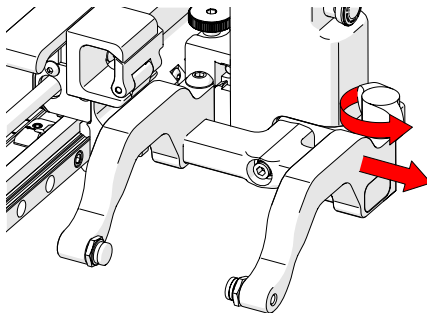

Fig. 48 - Remove outer arm
3. Loosen the probe holder adjustment knob and remove the outer probe holder arm (Fig. 48).